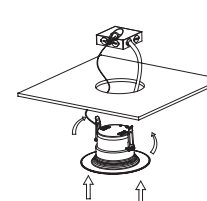

Fig. 9
- Step 4:** Squeeze the two housing clips so they are in an upright position and insert lamp into opening (Fig. 9).